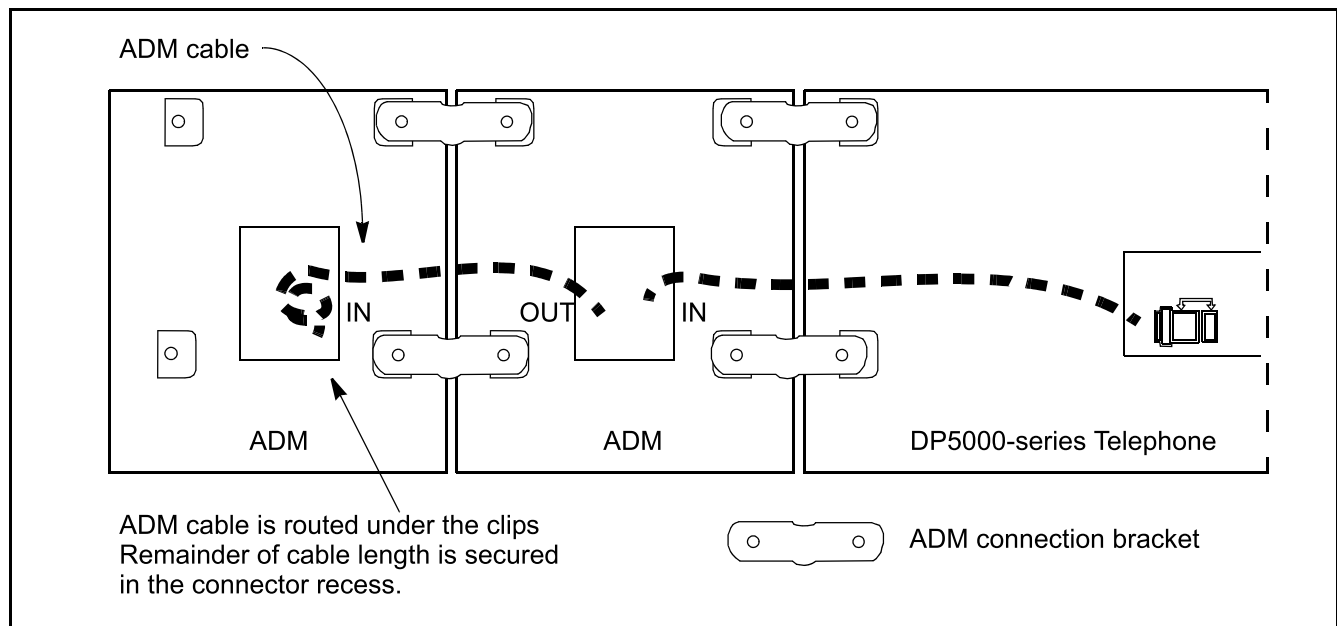

Figure 3 DP5000-Series ADM Connection
2. Use the brackets and screws included in the box to attach the ADM base to the telephone base. Refer to Figure 3.
3. Use the ADM cable included to connect from the telephone ADM connector to the ADM 'IN' connector. If a second ADM is attached, that cable runs from the first ADM "OUT" connector to the second ADM "IN" connector. Refer to Figure 3.